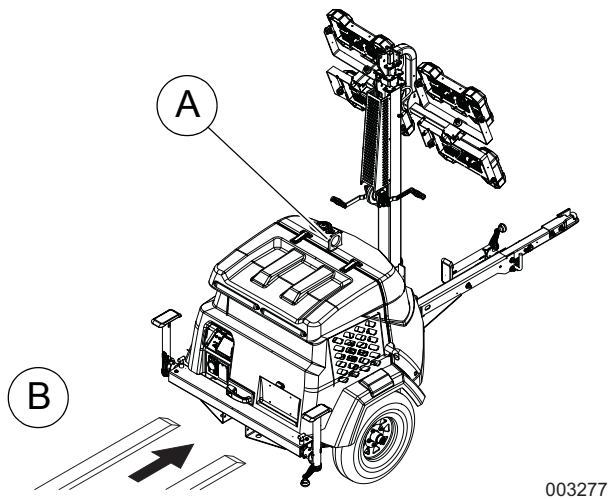

Figure 3-11. Lifting Point
3. See Figure 3-11. Stow the mast and lights in the travel position as shown.
- When lifting the unit, attach any slings, chains or hooks directly to the central lift point (A).